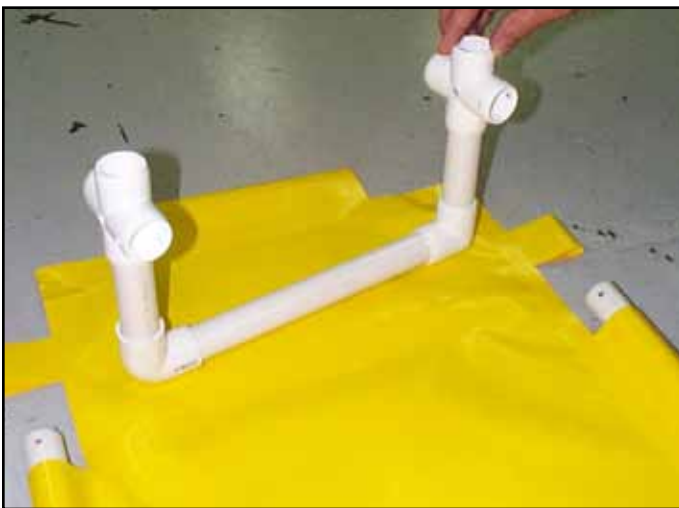

Figure 2
2. Assemble the U yokes that will support the vinyl tank. Each yoke consists of two yoke sides (Part 100 or 101) connected by a 12" PVC pipe (Part 105). There will be two end yokes, using yoke sides with four-way connectors (Figure 2), and five center yokes, using sides with T connectors.